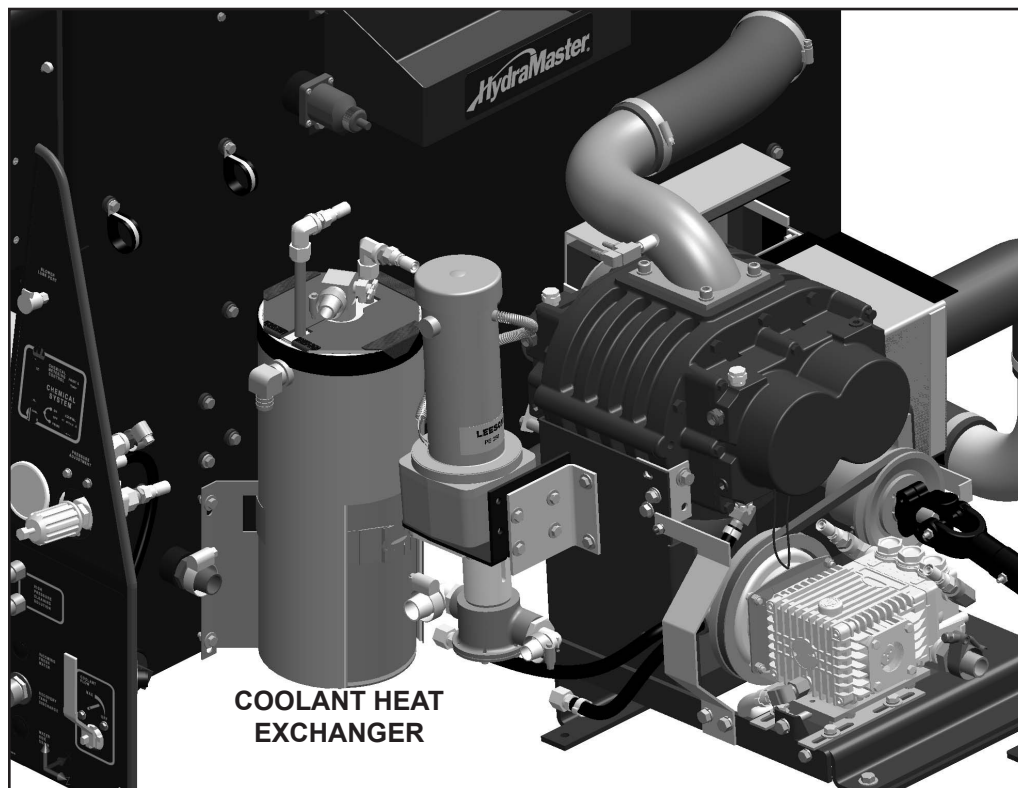

Figure 38. Dry Fit Coolant Heat Exchanger Assembly
1. Dry fit the Coolant Heat Exchanger with Bracket on the floor of the van next to the CDS as shown in Figure 38.